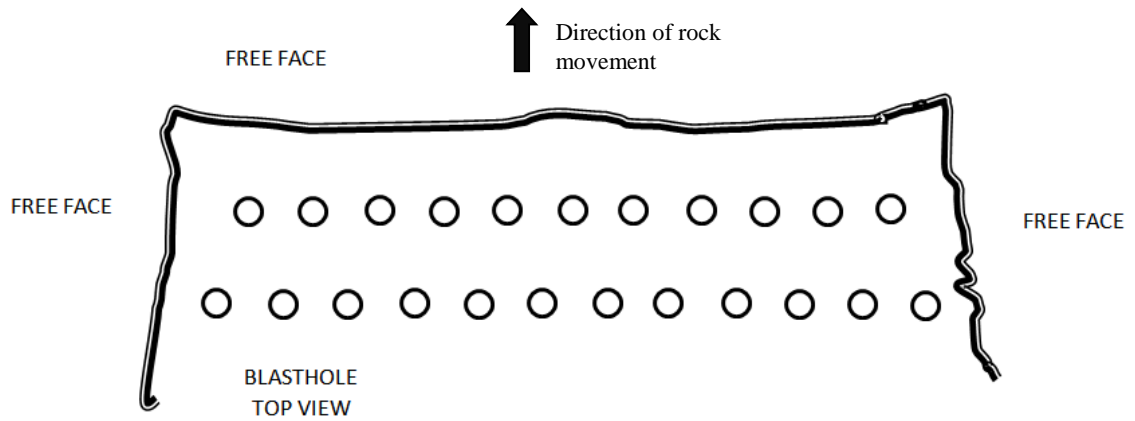

Figure 2 /Rajah 2
- (ii). Maximum of one (1) hole per delay (Figure 2)
*Maksimum satu (1) lubang per lengah (Rajah 2).*